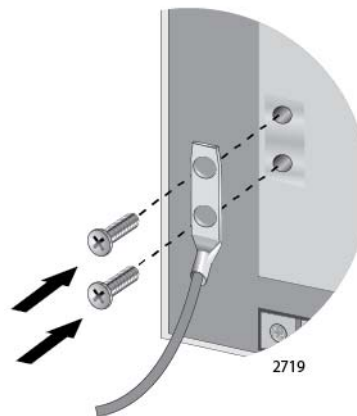

Figure 47. Installing the Grounding Lug and Wire
4. Install the grounding lug on the rear panel of the chassis, as shown in Figure 47.